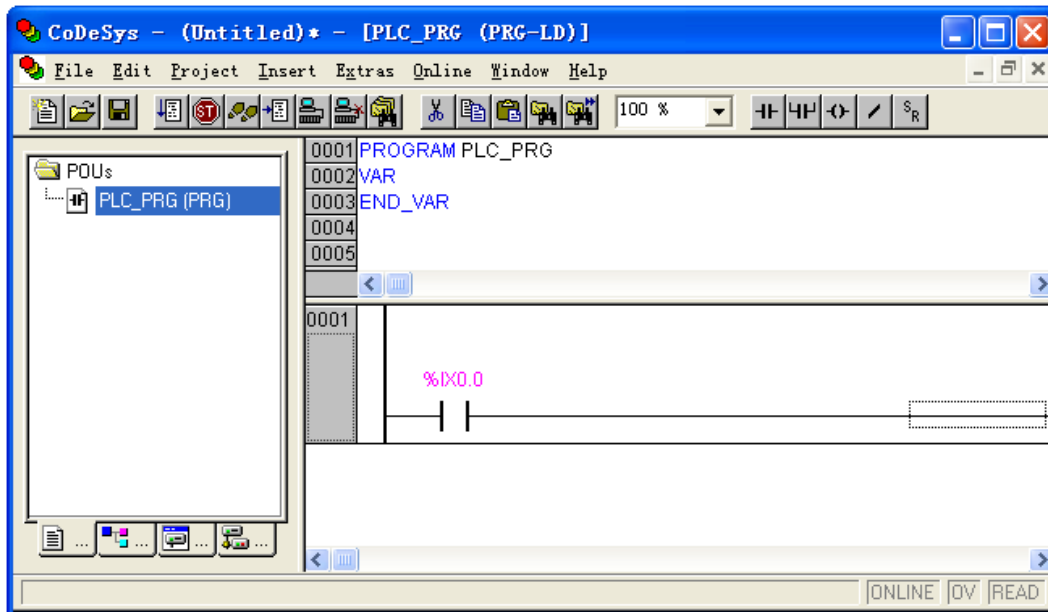

Figure 3-6-2 Programming Step (2)
- The default text of contact is “???”. Click the text and enter “%IX0.0”, as shown in figure 3-6-2. %IX0.0 indicates the first input of PLC. *Refer to section 4.2 for data addresses.*